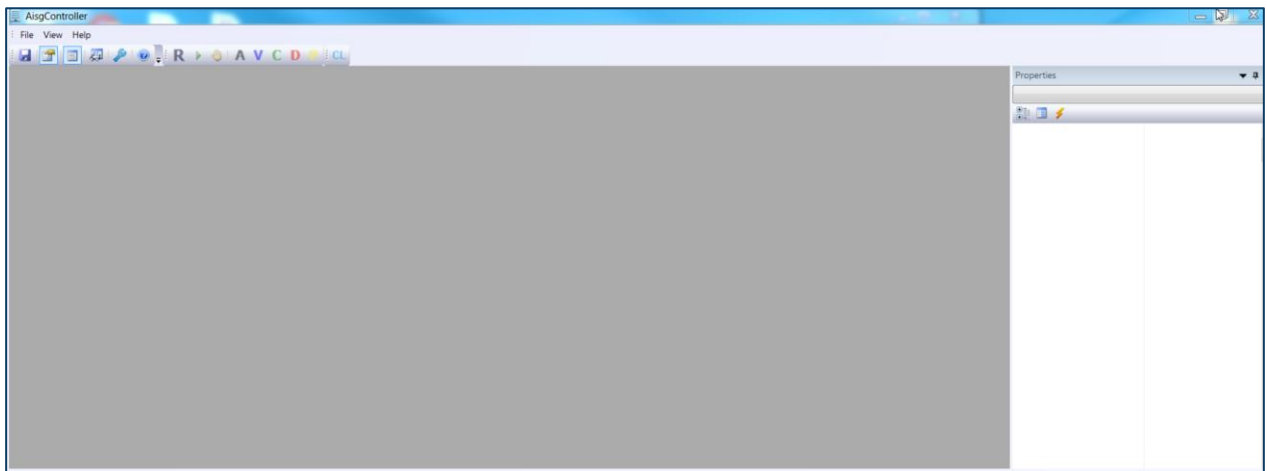

Fig. 7- Blank Commands and Properties windows
- When launching the GUI, the screen or window display will first look like Figure 7.